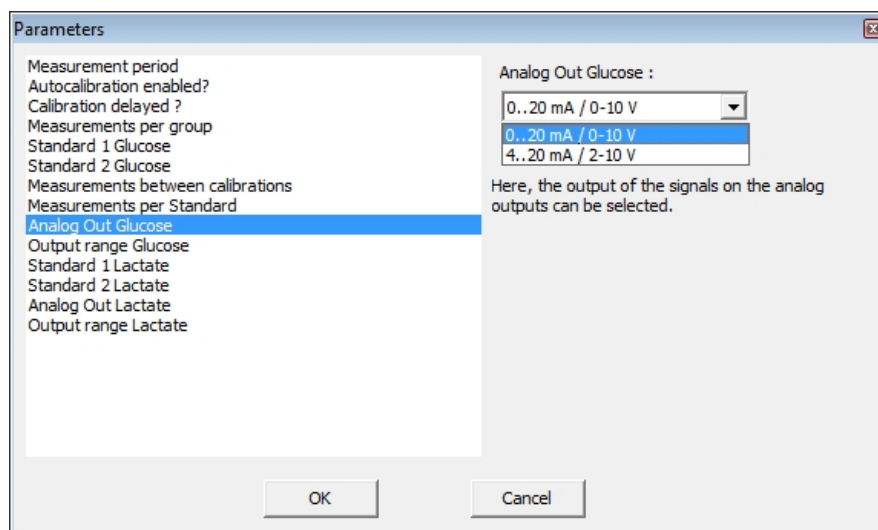

Figure 89: Switching the analog output
- Here, the output of the signals on the analog outputs can be selected between 0-20 mA and 4-20 mA, and between 0-10 V and 2-10 V, respectively (see Figure 89).